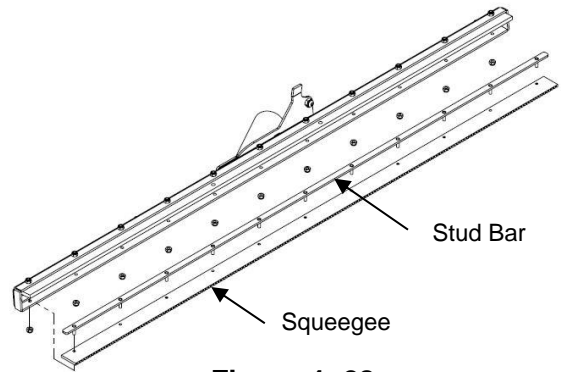

Figure 4- 28
1. Remove the 11 nuts as shown in Figure 4- 344. Take care not to drop the nuts into the machine. Inspect the stud bar for any damage and replace if necessary.
2. Replace the squeegee and reassemble as shown in Figure 4- 344. The **smooth** side of the squeegee should rest against the stud bar.